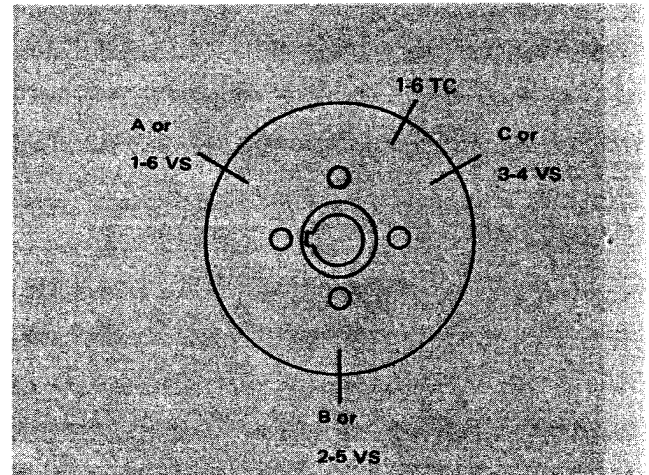

Fig. 2-43, (N114230). Accessory drive pulley markings
**Note:** Move ST-1170 Indicator Support to next cylinder, following firing order as indicated in Fig. 2-43, and repeat Steps 2 through 6 for adjustment.